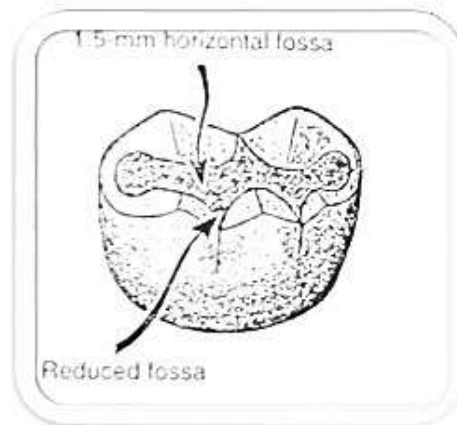

Figure 3:-
3. The occlusal line angles & grooves should be reshaped to contain a 1.5mm horizontal fossa. (Figure 3)